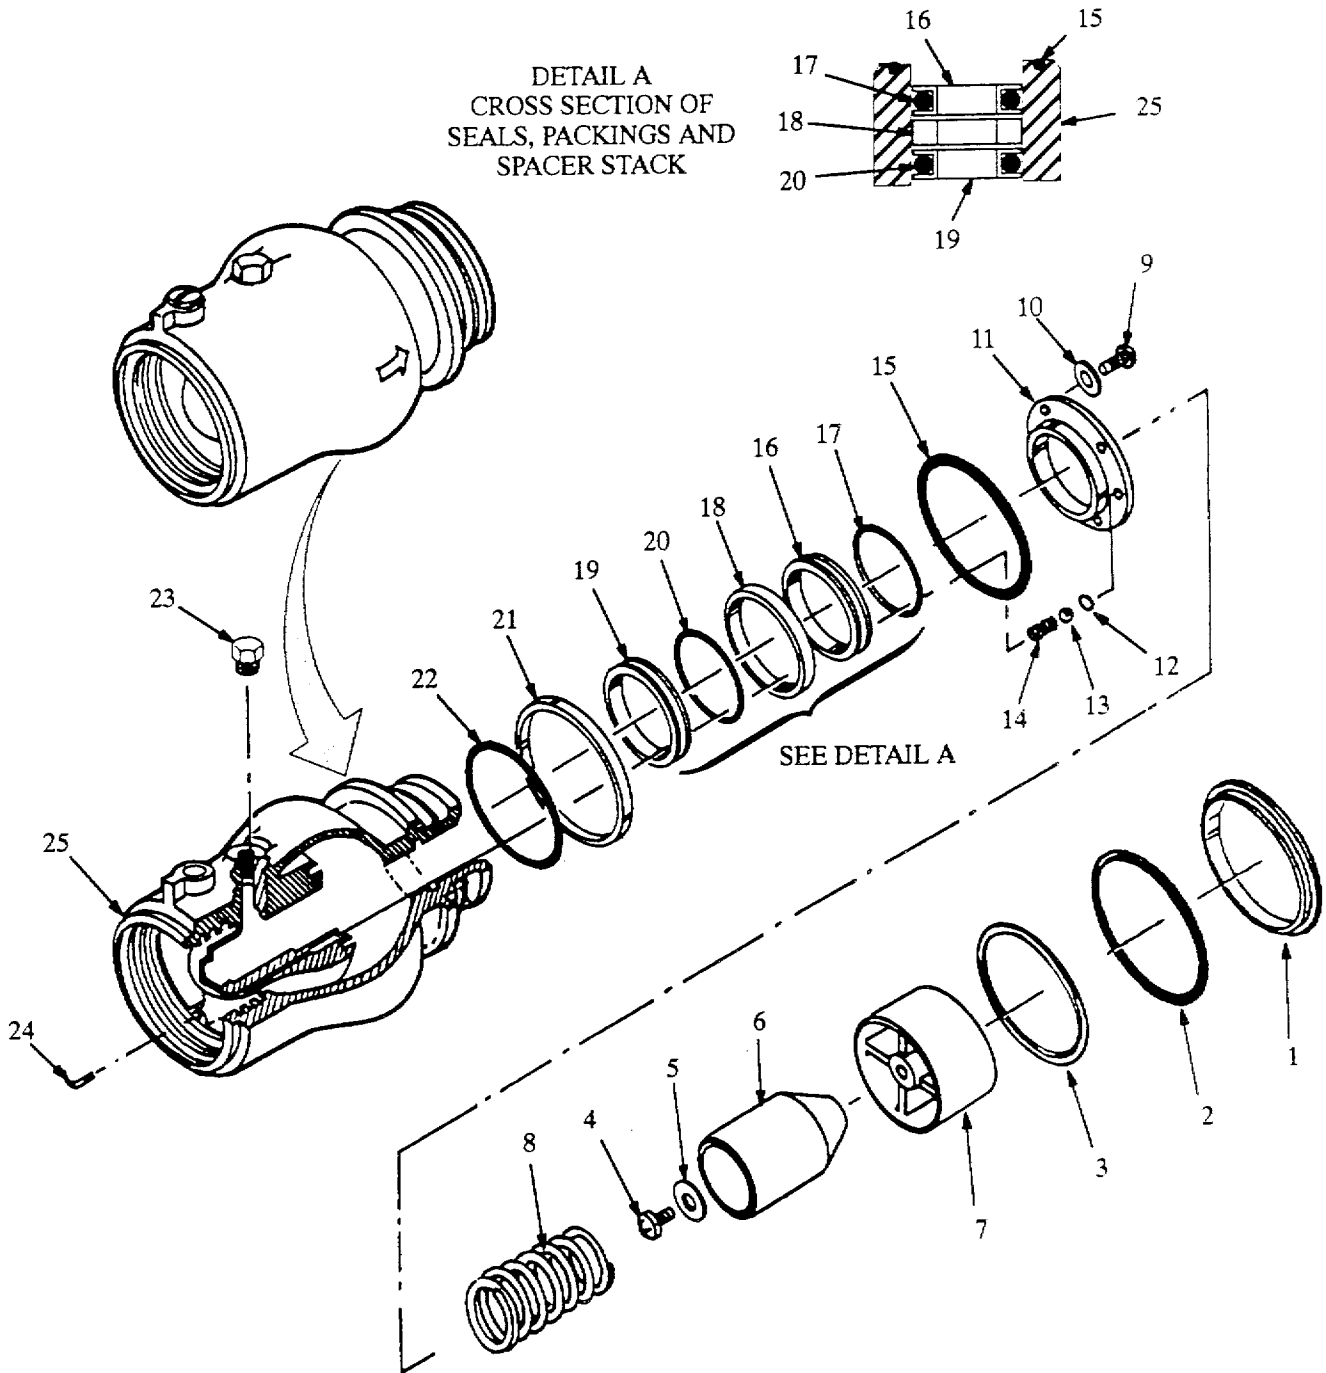
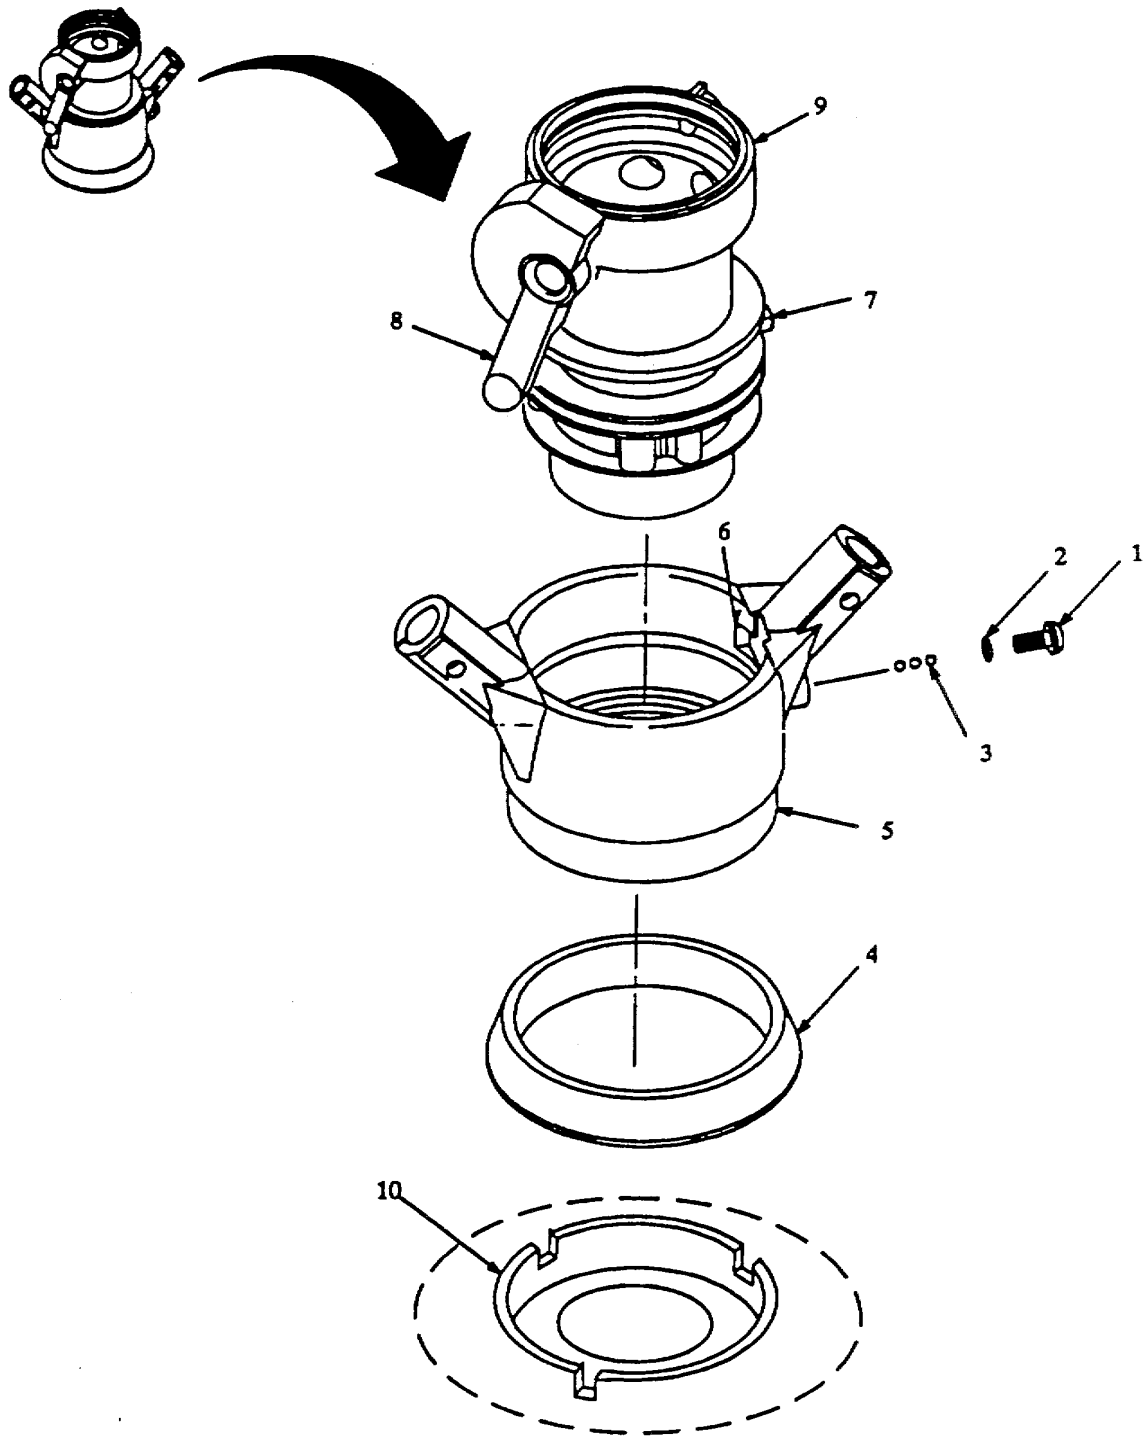
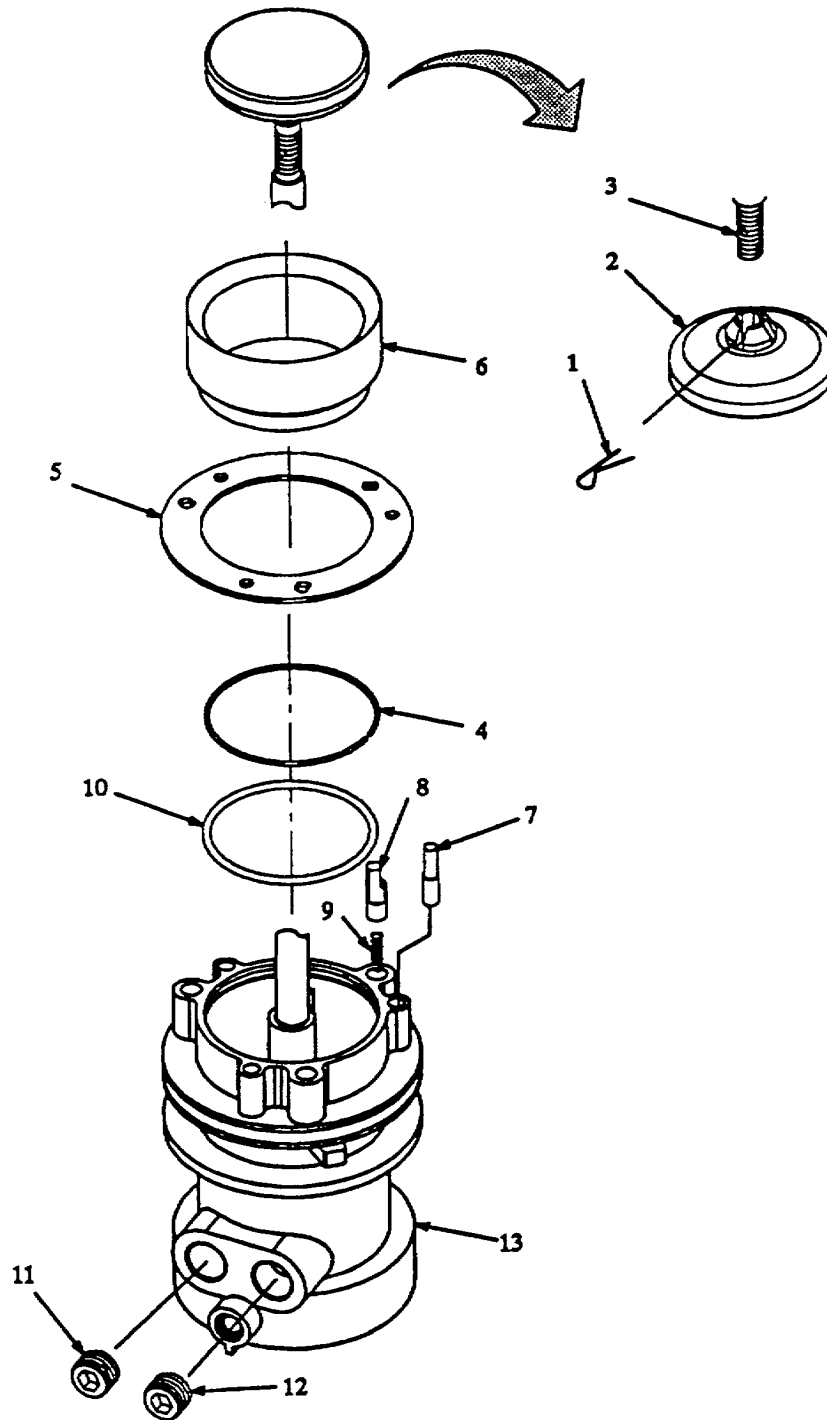
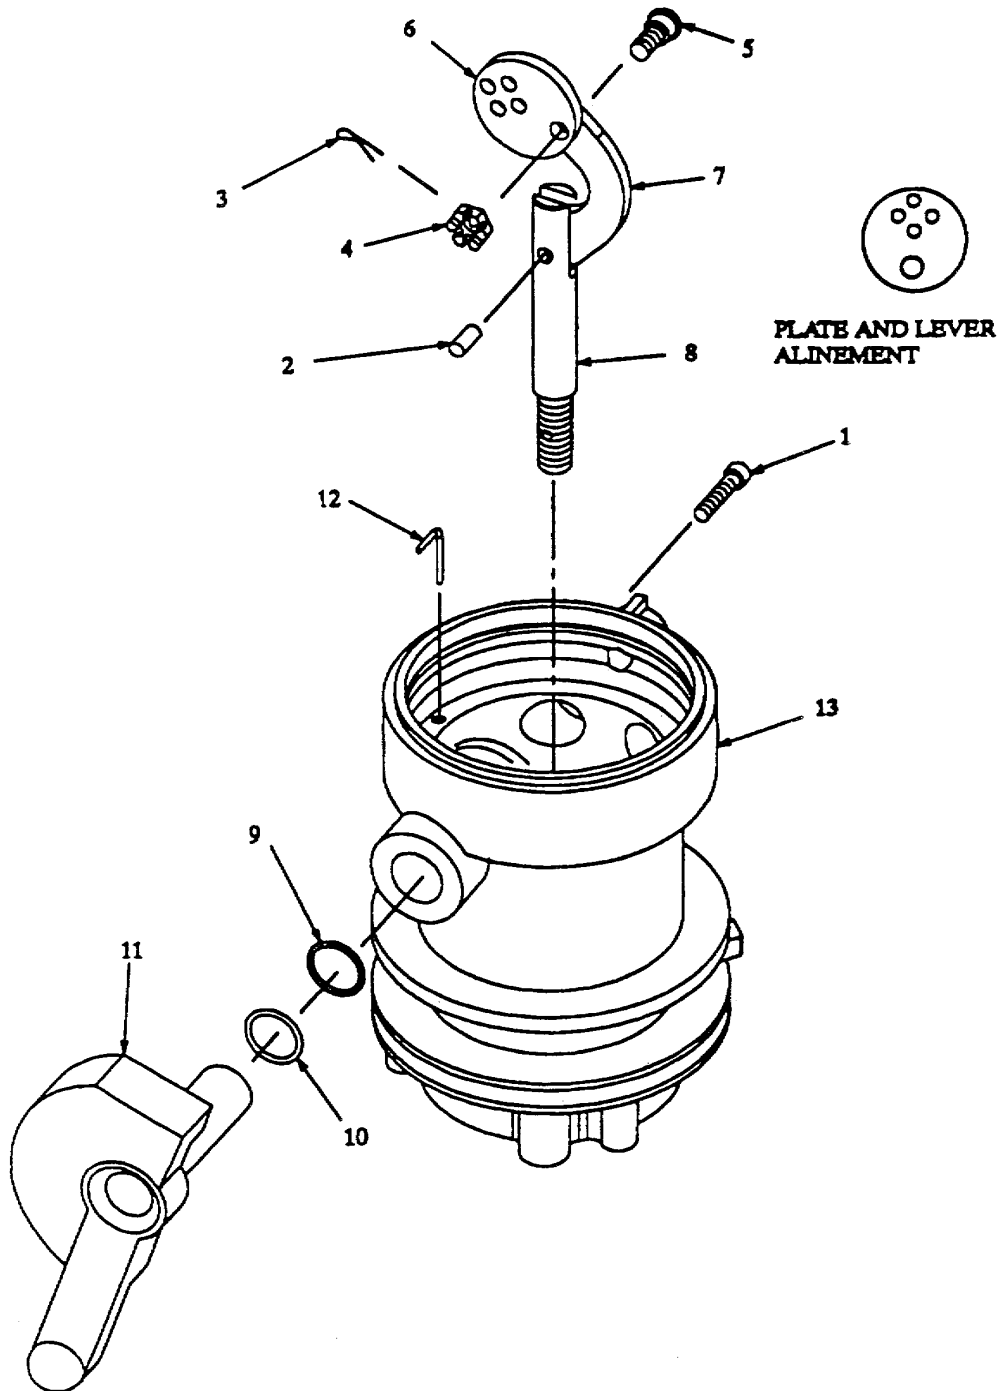

Figure 5-1A. Regulator Repair (Model HTARS101).
Figure 5-1B. Nozzle Body and Collar Repair
Figure 5-2. Nose Seal Repair.
Figure 5-3. Control Linkage Repair.
- (6) (Model HTARS101) Cut outer seal (1, figure 5-1A) and remove preformed packing (2) from exterior of housing (25).
- (17) Remove screw (1, figure 5-1B) and attached preformed packing (2) from collar (5).
- (18) Position collar (5) so that opening for balls (3) is pointing down.
- (19) Rotate body (9) back and forth on collar (5) until 49 balls (3) are removed.
- (20) Connect collar (5) to adapter (10).
- (21) Rotate body (9) to the left until index lug (7) aligns with groove (6) in collar (5).
- (22) Remove body (9) from collar (5).
- (23) Remove collar (5) from adapter (10).
- (24) If required, cut and remove bumper (4) from collar (5).
- (25) Position body (9) with poppet pointing up, then rotate lever (8) to open position (poppet extended).
- (26) Remove cotter pin (1, figure 5-2) and unscrew poppet (2) from shaft (3).
- (27) Pull seal (6) and attached parts from body (13).
- (28) Remove snap ring (4) and plate (5) from seal (6).
- (29) Remove three lock pins (8) and springs (9) from body (13).
- (30) Remove three index pins (7) from body (13).
- (31) Remove preformed packing (10) from body (13).
- (32) Remove two plugs (11 and 12) from body (13).
- (33) Working through plug hole, remove four socket head screws (1, figure 5-3) that secure plate (6) to lever (11).
- (34) Lift plate (6) and attached parts from body (13).
- (35) Push out dowel pin (2) and separate link (7) from shaft (8).
- (36) Remove cotter pin (3) and nut (4) from pin (5).
- (1) Inspect collar (5, figure 5-1B) for cracks, corrosion and worn adapter mating surfaces.
- (2) (Model HTARS101) Inspect housing (25, figure 5-1A) for cracks, corrosion, dents, gouges, abrasions and worn ball races.
- (3) (Model HTARS101) Inspect inner piston (6) and outer piston (7) for scratches. Parts must be smooth and free of imperfections.
- (4) Inspect body (7, figure 5-1B) for cracks, corrosion and damaged threads.
- (5) Inspect poppet (2, figure 5-2) for damaged threads and corrosion or pitting along sealing surface.
- (6) Inspect shaft (3) for corrosion and damaged threads.
- (7) Inspect lever (11, figure 5-3) for cracks, damaged threads and corrosion.
- (8) Inspect plate (6) and pin (5) for damaged threads.
- (9) Inspect link (7) for cracks and elongated mounting holes.